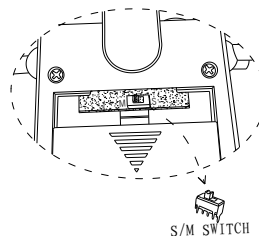

Figure 2
3. S/M switch: There is an s/m switch inside the battery box, see figure 2. When the switch is on "M", the output of earphone plug is mono and when the switch is on "S", the output is stereo.